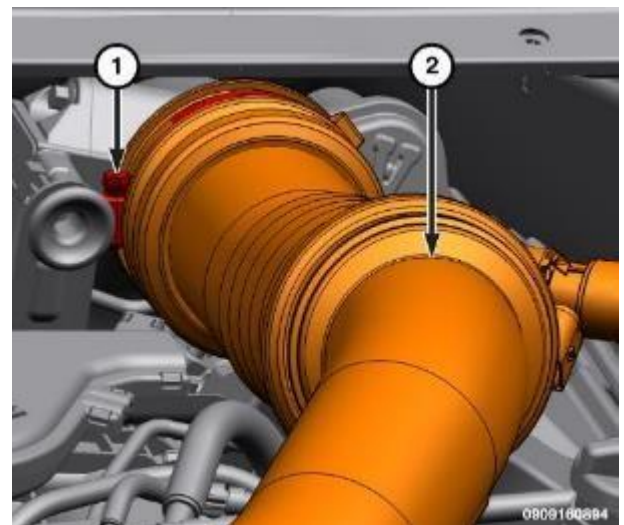

Figure 75 – Clean Air Hose
- 127. Install the clean air hose (2) to turbocharger and securely tighten the clamp (1) (Figure 75).